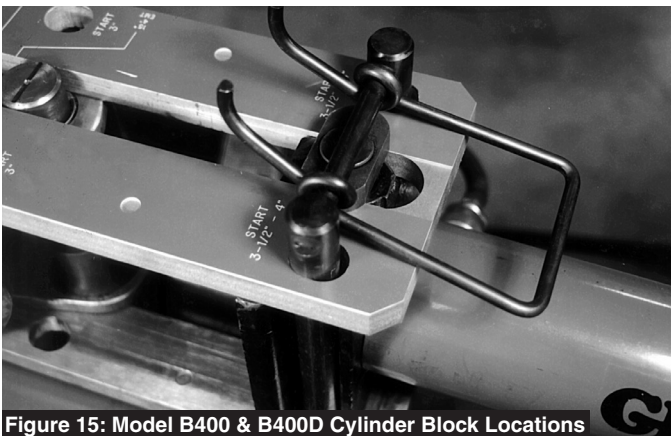

Figure 15: Model B400 & B400D Cylinder Block Locations
1. The B400 and B400D use a hydraulic cylinder with a 14" stroke. As a result, the cylinder mounting block must be moved to the holes in the frame that match the size conduit being bent. Figure 15.